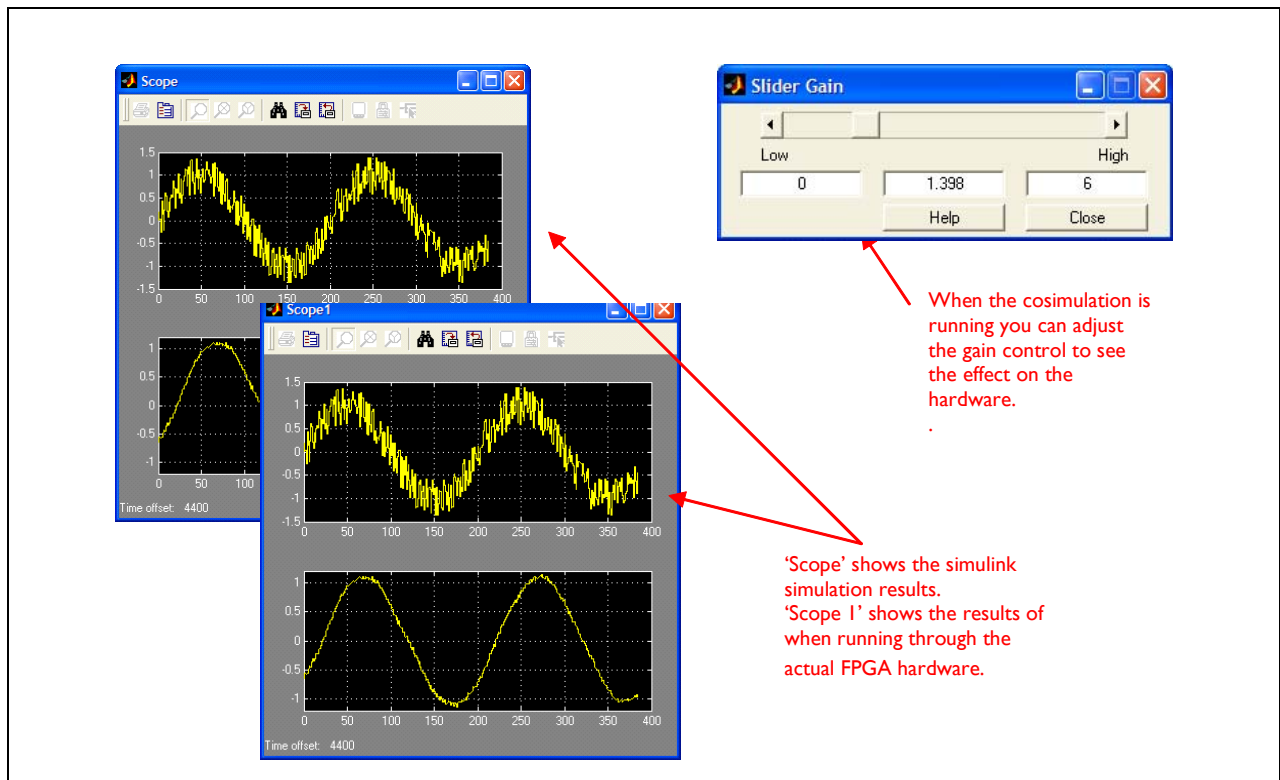

Figure 133: Cosimulation Results
6. Simulate the model by clicking on the 'Start simulation' icon shown right. Open both scopes and also the gain slider control as shown in Figure 133 on page 208. After a few seconds, during which the FPGA is configured, the simulation begins and waveforms appear in the scopes.